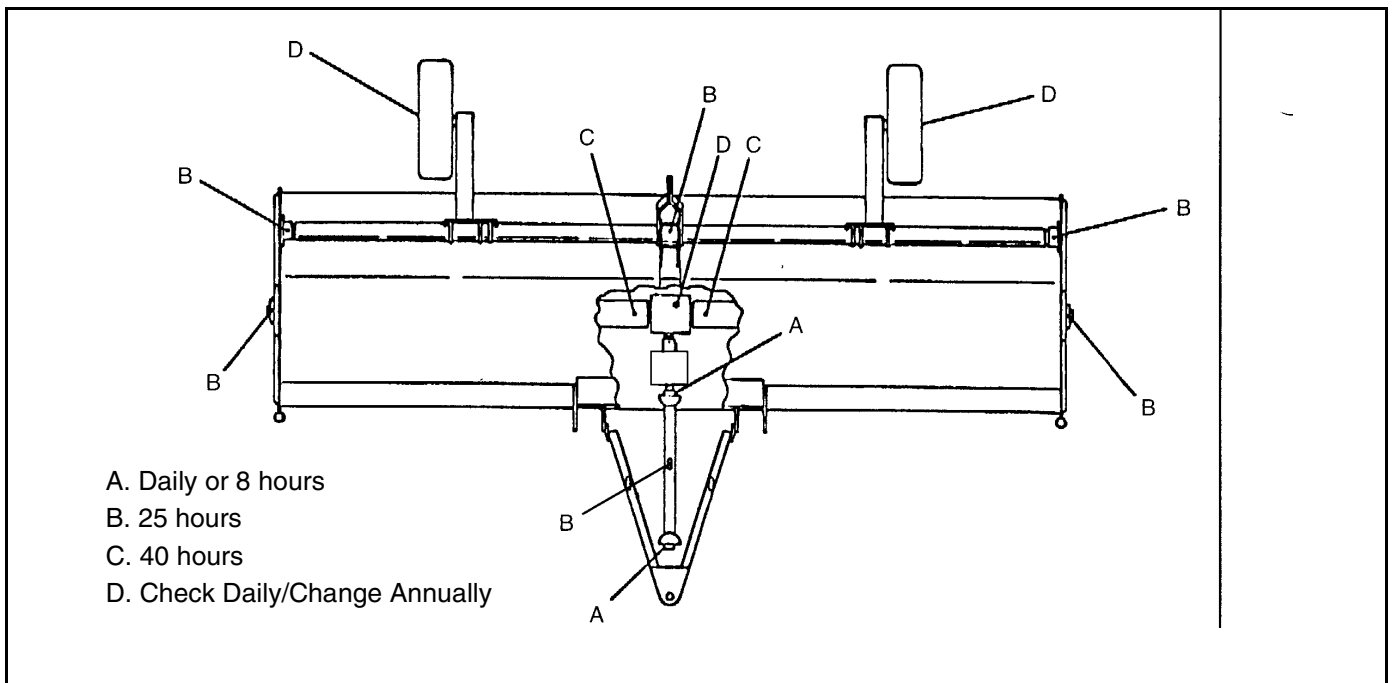

Figure 23. Lubrication Points
NOTE: Recommendations are based on normal operating conditions. Severe or unusual conditions may require more frequent lubrication or oil changes. Refer to Figure 23.
1. Lubricate PTO driveline telescoping section (one location, Position B, Figure 23).